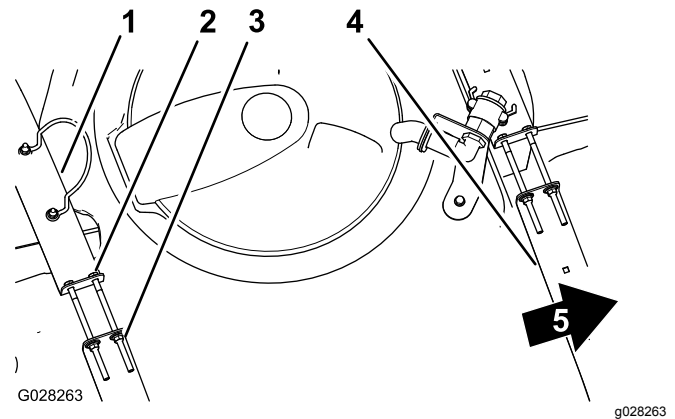

Figure 24
2. Check to see if there is any movement between the tank straps and the tank (Figure 24).
3. If the tank straps fit loose to the tank, tighten the flanged locknuts and bolts at the top of straps until the straps are flush with the surface of the tank (Figure 24).